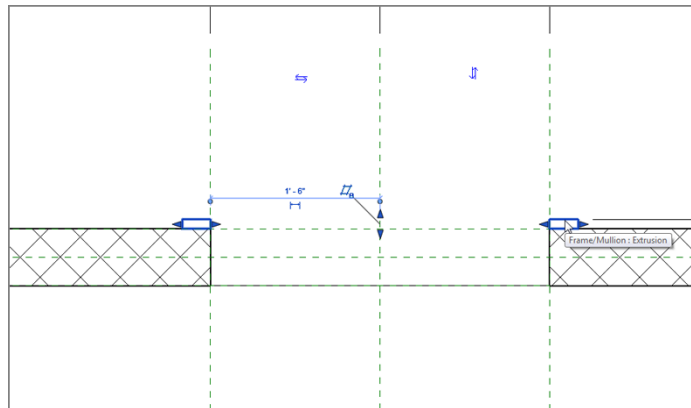

FIGURE 17.13 : Deleting the jambs from either side of the door
3. Quite a bit of work has been done for you. This is great, but you don't need all the items in the template. Select the door jambs, as shown in Figure 17.13, and delete them from either side of the door.